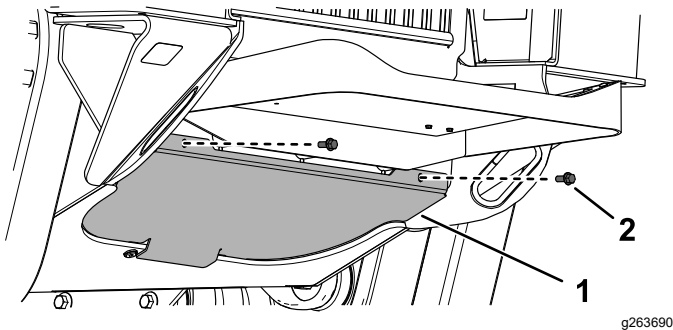

Figure 37
1. Remove the 2 bolts securing the bottom plate (Figure 37).